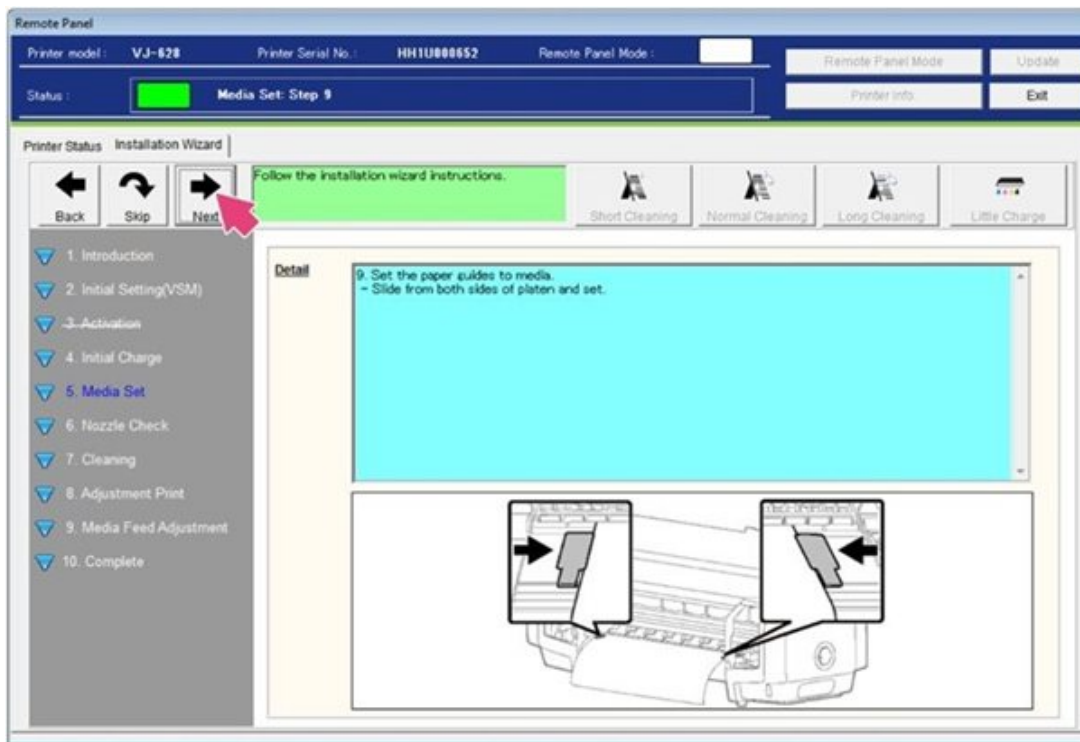

Figure 72
59. Slide the media guides over both sides of the paper; then select **Next**. See Figure 72.